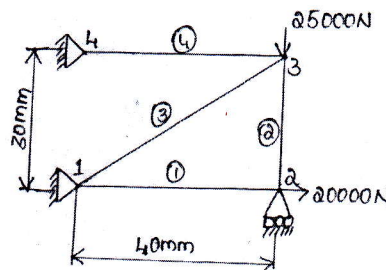

Fig. Q3 (b)
- b. Consider the four bar truss shown in Fig. Q3 (b). It is given that  $E = 2 \times 10^5 \text{ N/mm}^2$  and  $A_e = 100 \text{ mm}^2$  for all elements. Determine the nodal displacement and stress in each element.